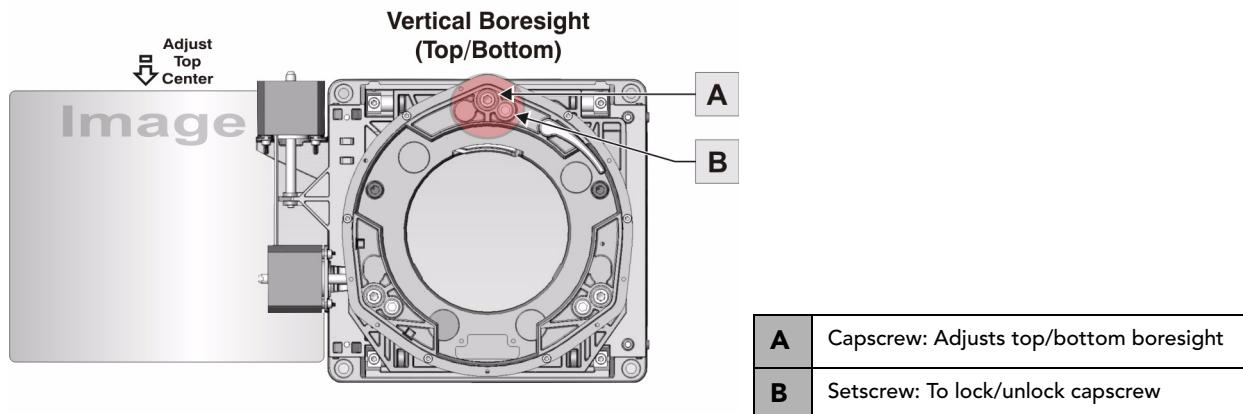

FIGURE 3-12 TOP/BOTTOM IMAGE ADJUSTMENT
3. Use a 5mm Allen™ key to loosen the setscrew (**Figure 3-12, B**).
4. Use the 5mm Allen™ to turn the vertical adjust capscrew 1/8 of a turn counter-clockwise. (**Figure 3-12, A**).